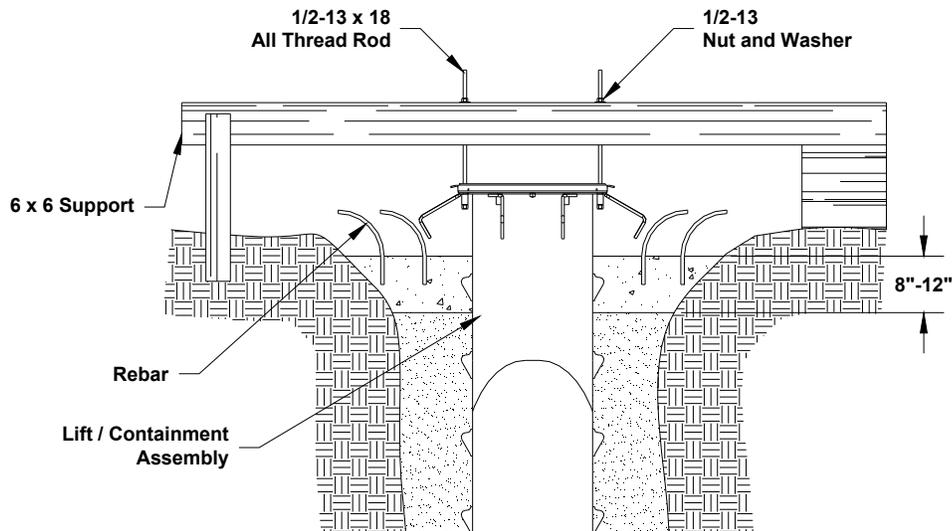

Fig. 6
- Pour 8" to 12" of concrete around the top of the lift / containment assembly and install rebar to tie in the finished floor. Refer to **Fig. 6**.